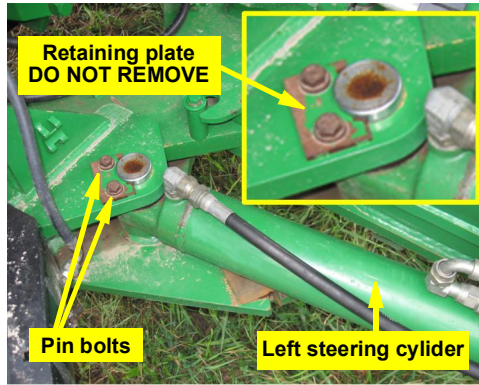

Figure 2a: Pin bolts and retaining plate at ram end of left steering cylinder. Retaining plate also inset.
- a. Locate the two pin bolts at the ram end of the left steering cylinder near the tractor articulation point. Remove the two pin bolts. **DO NOT REMOVE THE RETAINING PLATE** (Figure 2a with inset).